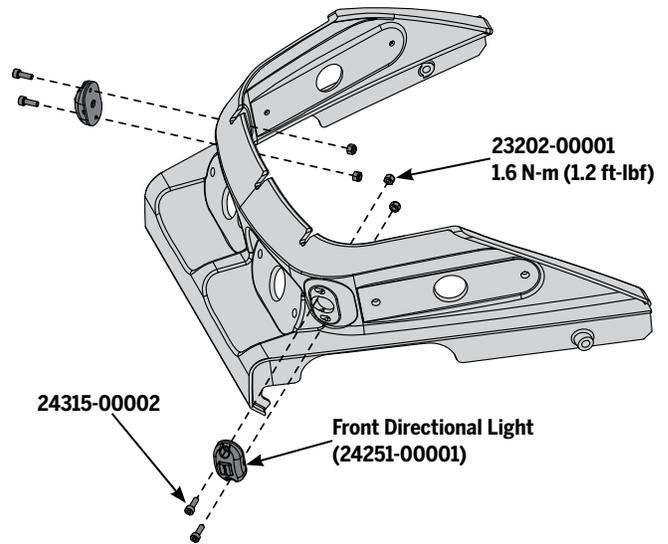

Figure 55: Front Directional Lights
4. Using a 3 mm hex wrench and a 7 mm socket wrench, remove the two fasteners securing the light. See **Figure 55**.
3. Slide the plastic sleeves onto the fasteners, then install the fasteners and lock nuts (**Figure 55**).